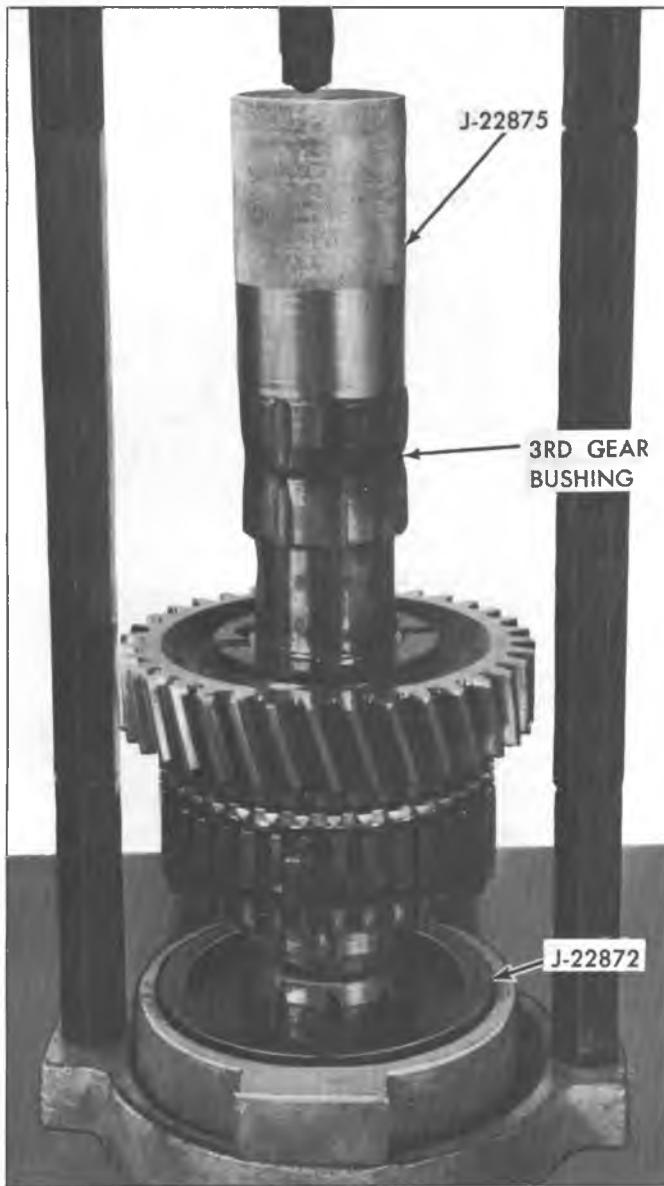

Fig. 7B-18L--Installing 3rd Speed Gear Bushing
6. Install 3rd speed gear thrust washer onto mainshaft with tang on thrust washer in slot on shaft and against 2nd speed gear bushing. Then press 3rd speed gear bushing onto mainshaft using Tool J-22875 until it bottoms against thrust washer (Fig. 7B-18L).
8. Index synchronizer ring key slots with synchronizer assembly keys and press 3rd and 4th synchronizer assembly onto mainshaft using Tool J-22875 and against 3rd speed gear bushing thrust face toward 3rd speed gear (Fig. 7B-19L). Retain synchronizer assembly with snap ring.